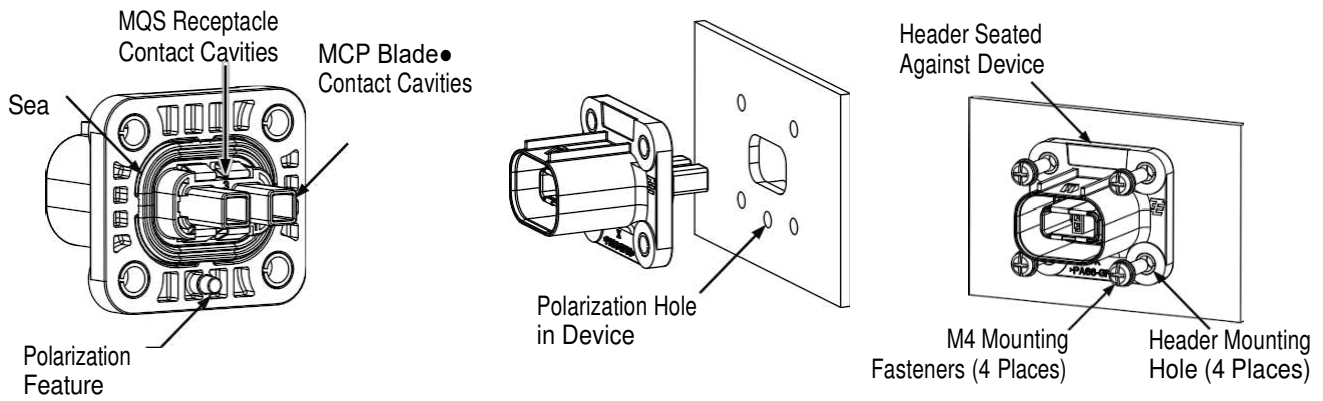

Figure 2
2. Check that the seal is present on the header. Align the polarization feature of the header with the polarization hole in the device, then push the header onto the device until it is seated against the face of the device. Refer to Figure 2.
3. Obtain four M4 mounting fasteners that are compatible and capable of meeting the required torque of 2.5 ± 1 Nm [1.84 ± 0.74 lb-ft]. Insert each fastener through a mounting hole in the header and into the hole in the device. Tighten each fastener to the required torque. See Figure 2.